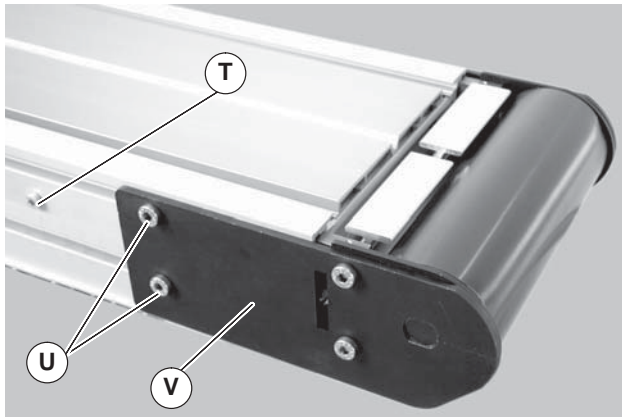
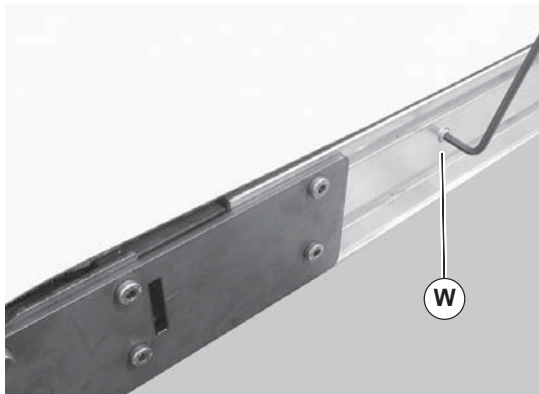

Figure 16
Figure 17
2. On tension end of the conveyor, identified by the pinion locking screw (Figure 16, item T), push in head plate assembly (V): Loosen the pinion locking screw (T), adjust the pinion torque screw (Figure 17, item W). On both sides of conveyor, loosen the two tail clamp bolts (Figure 16, item U), and push head plate assembly (V) inward.